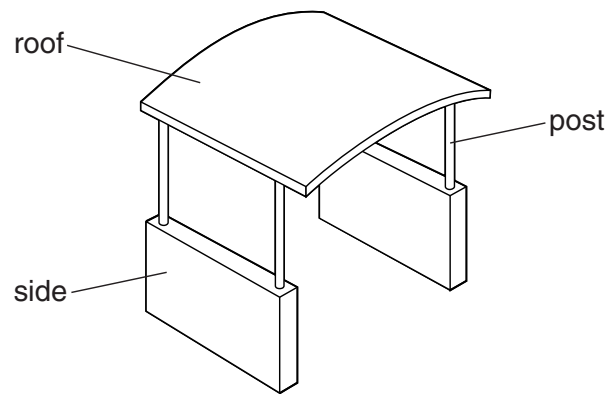

Fig. 3
- 2 Fig. 3 shows a model bus shelter. It could be made using wood, veneers or brass sheet.